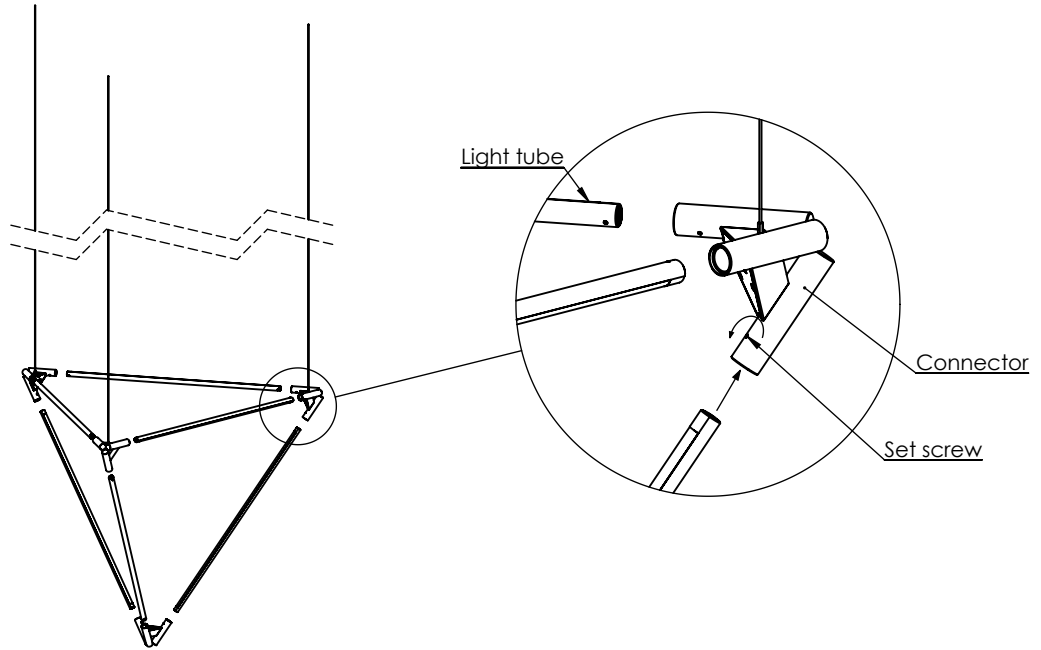

FIGURE 4
NOTE: Figure 4 shows TETAHEDRON as an example. Please install the correct number of light tubes according to your fixture's configuration. The instructions below are same for all SOLIDS.
2. Insert Light tubes into the connectors as shown in FIGURE 4.